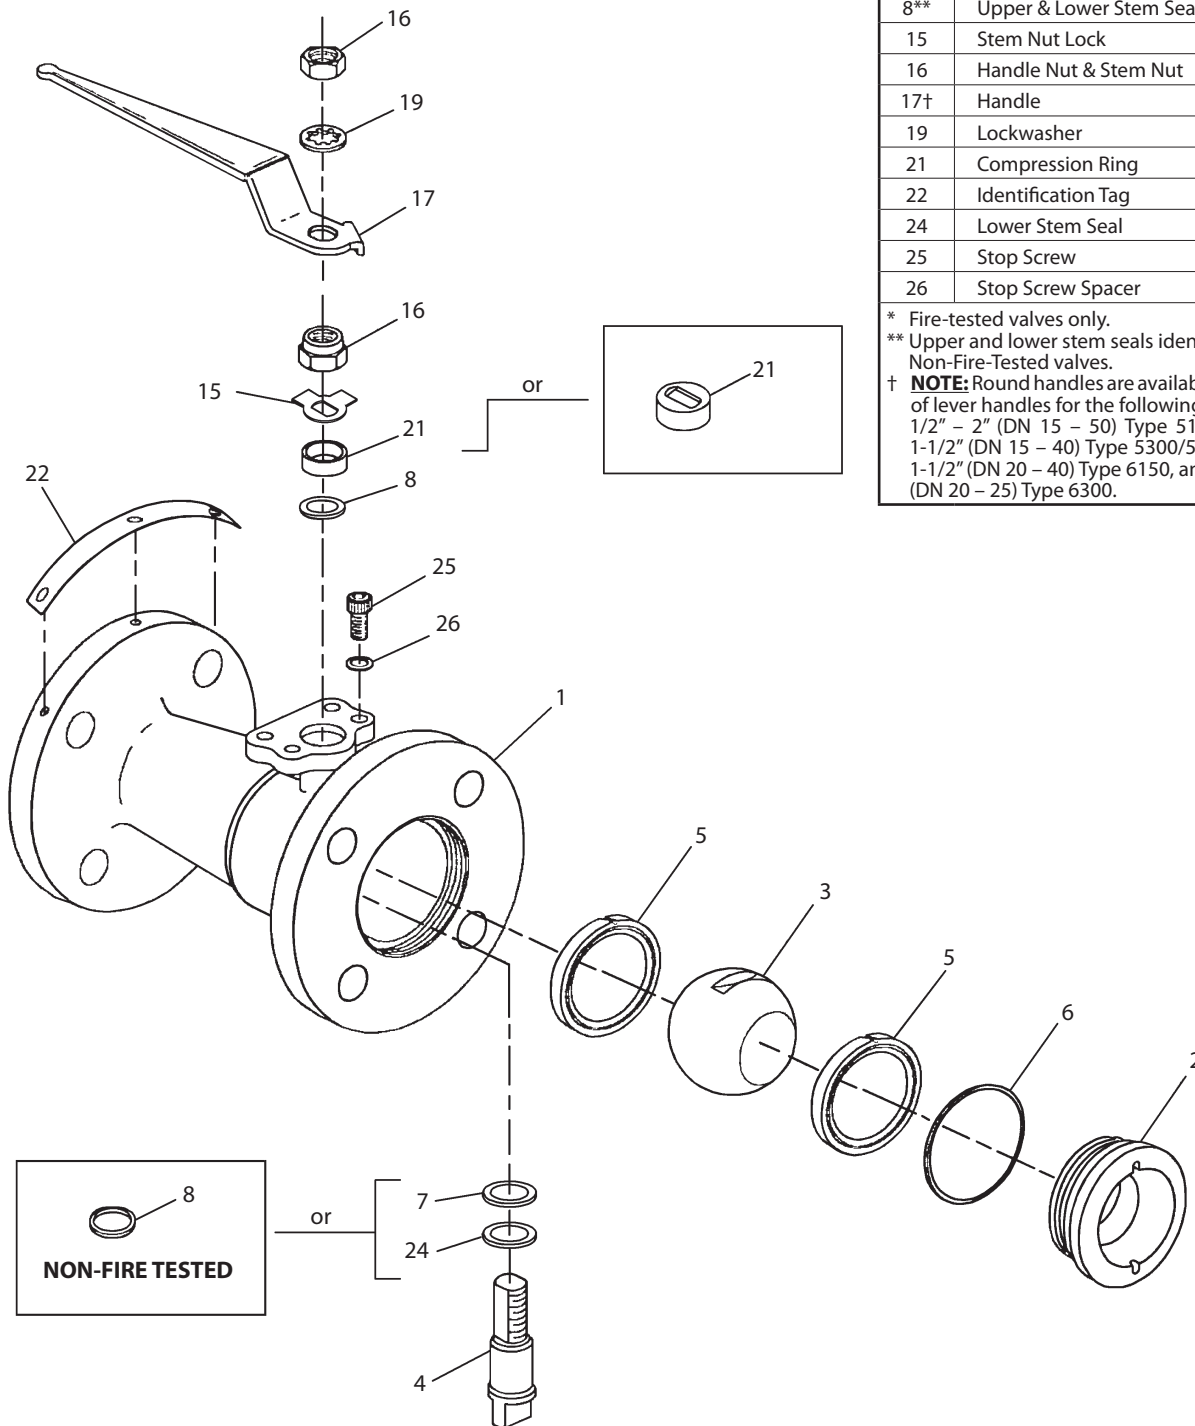

Figure 10
- From **Figure 10**, the ballooned part number, part name and quantity required.